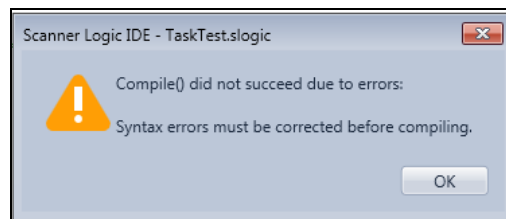

Figure 2.22—Unsuccessful Build message
2. A scan for any present parsing errors. Any syntax errors still present in the script file (e.g. typos, syntax errors, etc.) will terminate this process. User will be notified that the build was unsuccessful (Figure 2.22) and the Error List grid will be updated with parser errors.